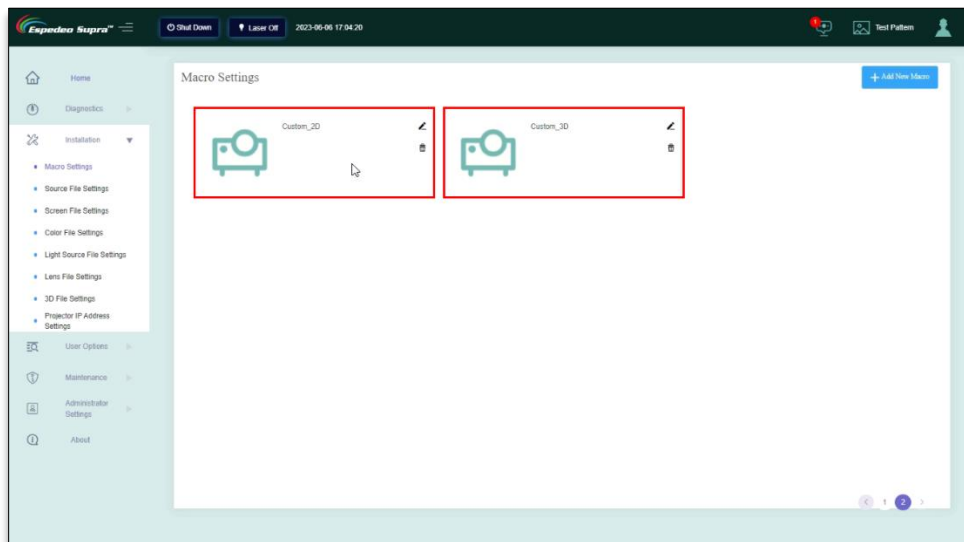

Figure 25: List Custom 2D/3D Macros
- III. You can now view the created macros under **Macro Settings** as shown in **Figure 25**.